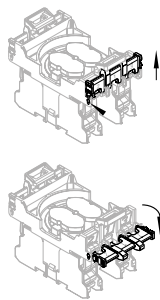

Fig. 12
2. Contact carrier disassembled and opening the contact lugs (see Fig. 12): lift both contact lugs to release them from the catch mechanism and then fold them 90° up. After that, the contact or light elements can be disassembled.